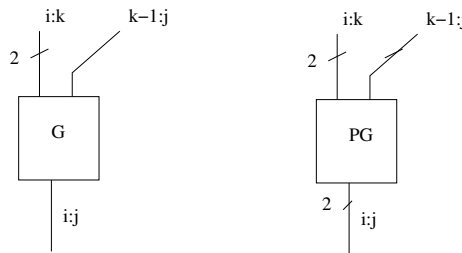

Figure 2.4: G and PG blocks
- The general **propagate** (*white box*) and general **generate** (*dark box*) super blocks, shown in details inside Figure 2.4, produce outputs as: